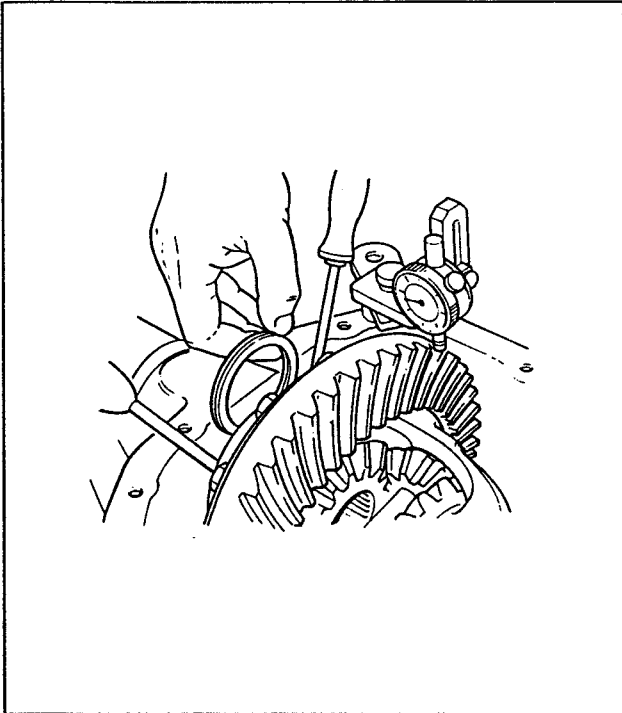

Fig. 16 Positioning the crown wheel
49. Select a shim pack which will eliminate the clearance between the bearing cup on the back face of the crown wheel and the axle casing. Mount a dial gauge so that the probe on the gauge is at right angles to one of the teeth on the crown wheel Fig. 16 and check that all backlash has been eliminated when the selected shim pack is held in position between the bearing cup and axle casing. Subtract shims from the pack to a thickness of 0,125-0,225 mm (0.005-0.009 in.) then place the remaining shims in position.
58. Check the crown wheel to pinion backlash with a dial gauge positioned as shown in Fig. 16 at right angles to the crown wheel teeth at three points equidistant around the crown wheel. The correct backlash is 0,125-0,225 mm (0.004-0.009 in). Backlash variation must not exceed 0,075 mm (0.003 in.) If the backlash is outside this tolerance, adjust the differential bearings shims by reducing the shim pack on one side and increasing the shim pack by the same amount on the other side.